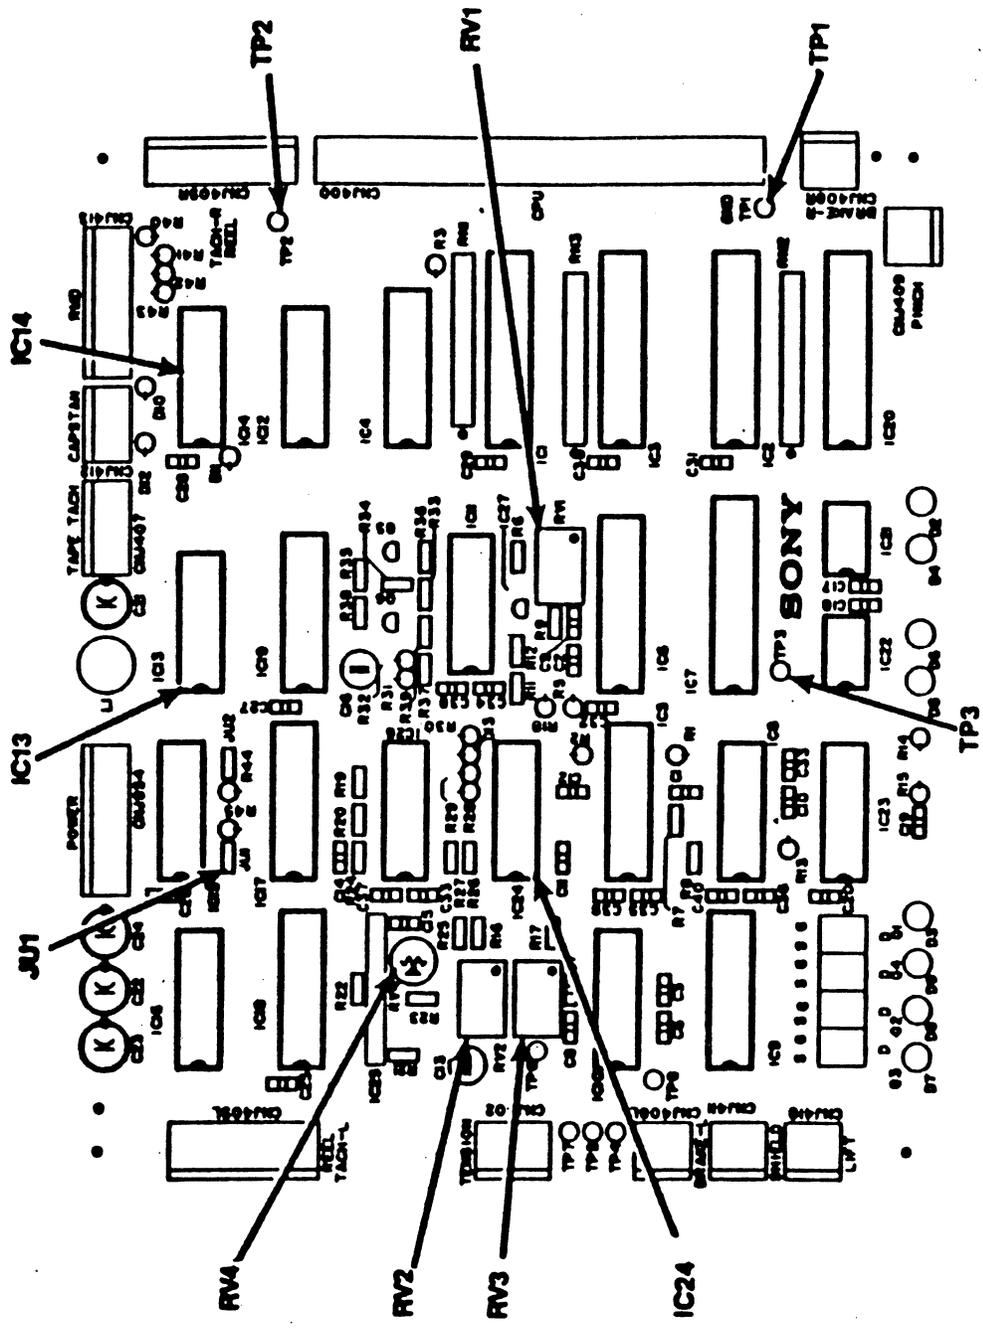

Figure 6-9. TIB Board Layout
- 6 Tape Tach Sensor (TTS) pg 6-19 IC Dip Clip to IC13 on TIB board fig 6-9